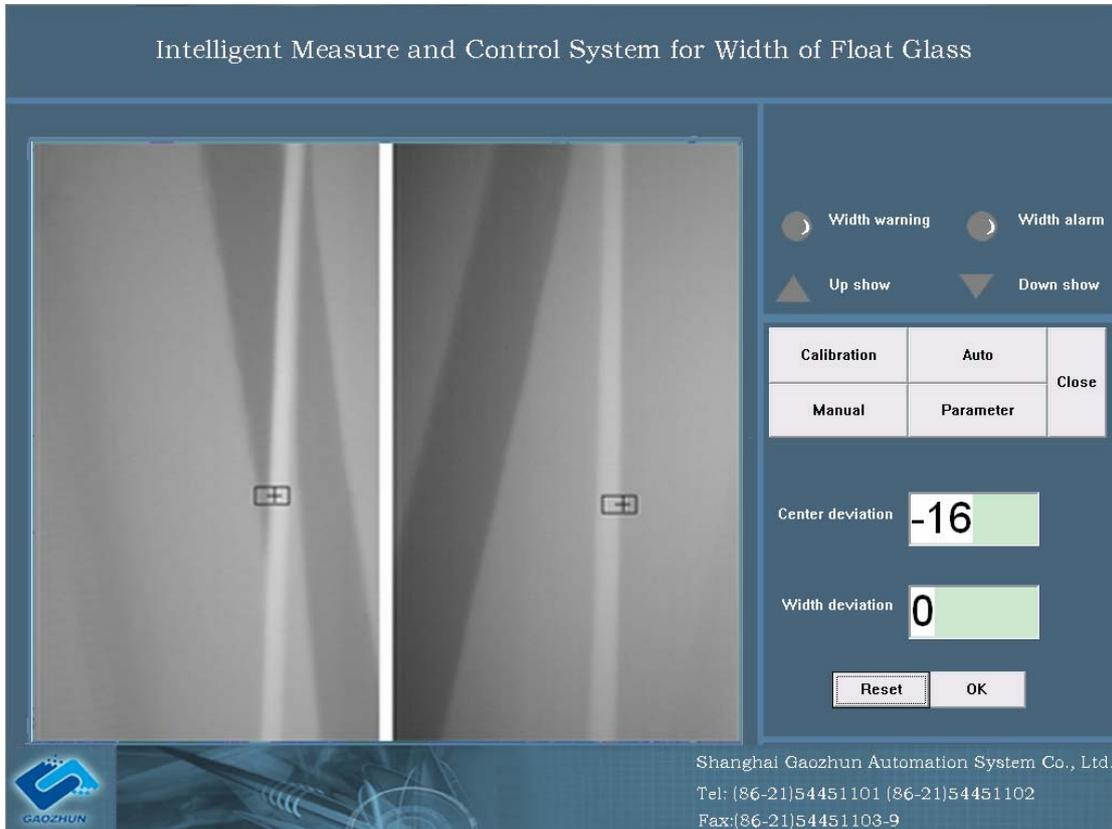

Fig. 8 Interface of Magnify
5.5 When operator is far away from the screen of computer, the left key of mouse can be used to click the “Magnify” button to enter the magnify interface, shown in Fig. 8.